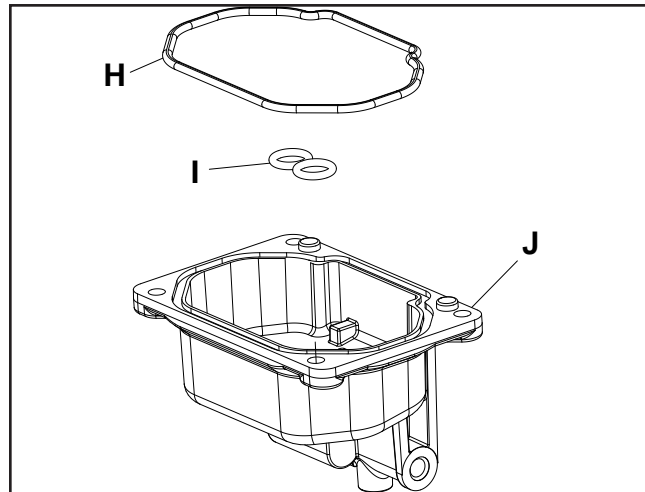

Figure 9
The main nozzles are sealed with an o-ring gasket (I) (Figure 9) that fits into the float bowl. The bowl gasket (H) is an o-ring gasket that fits into a groove of the float bowl (J).